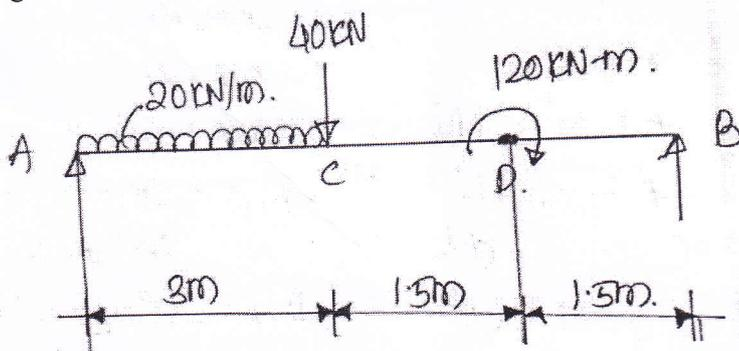

fig. 2a
- Q.2 Draw the shear force & bending moment diagram for the beam as shown in fig. 2a. Also find the point of contraflexure if any, 16 L₃ CO3